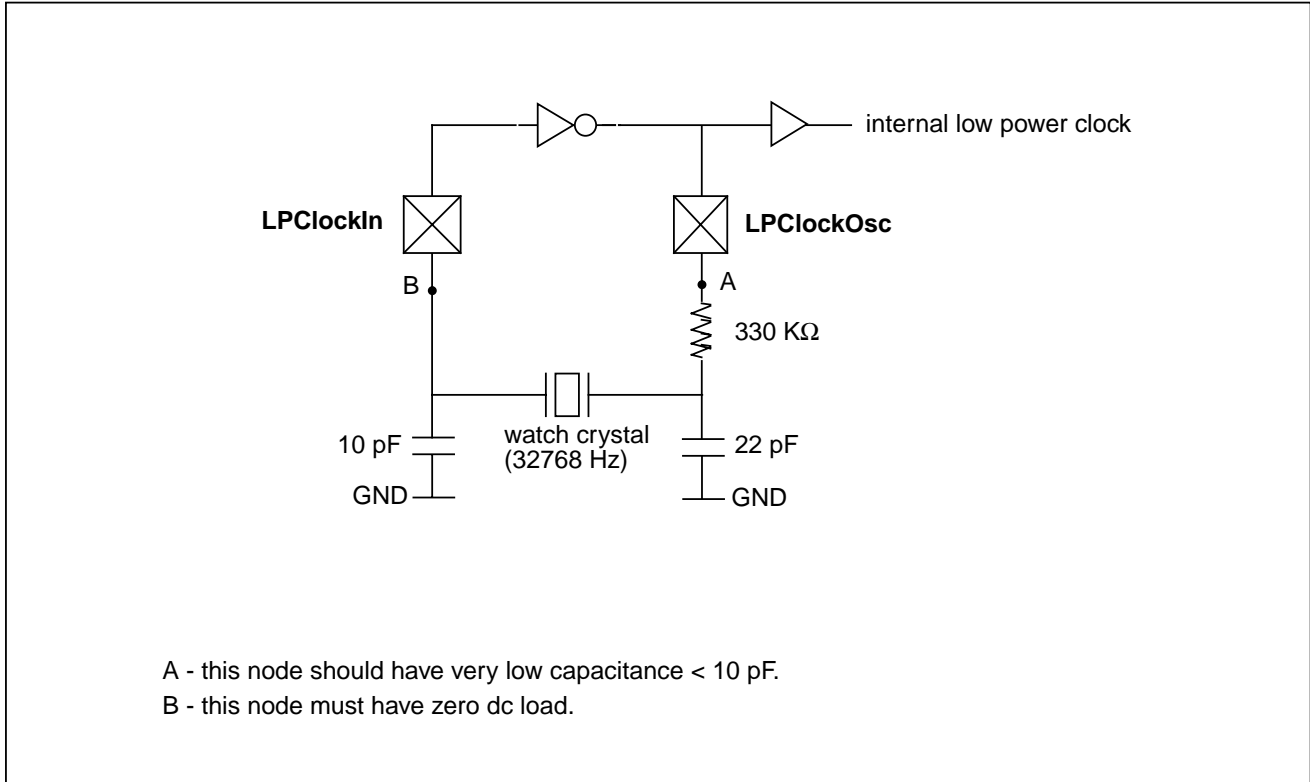

Figure 10.1 Watch crystal clocking source
- Watch crystal, as in Figure 10.1.